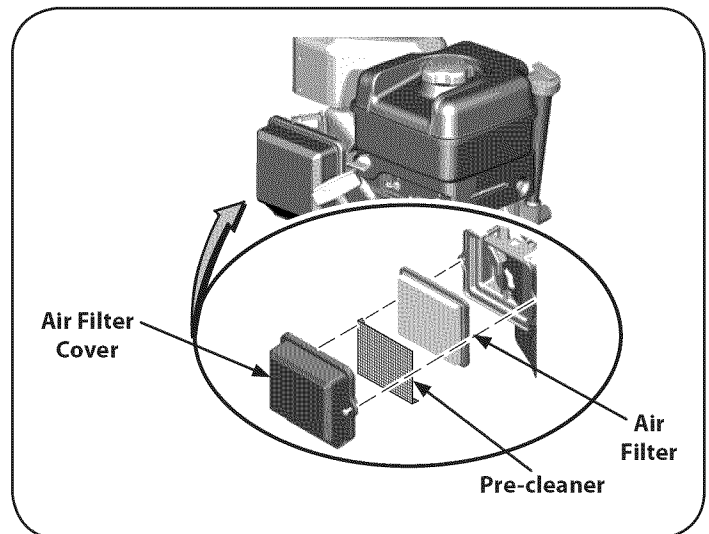

Figure 19
1. Loosen screws that hold the air filter cover. See Figure 19.